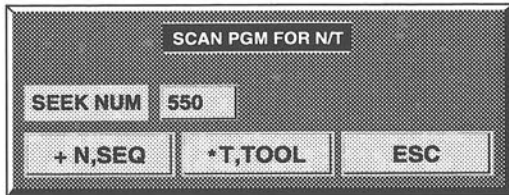

Figure 9-2
- 3 **FND SEQ** This command searches the active part program for a specific sequence number or tool change command. The **FND SEQ** command displays a window on the screen as shown in Figure 9-2.